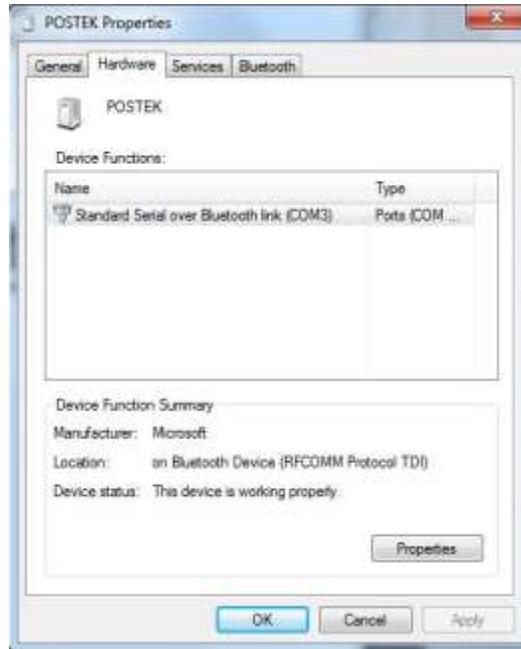

Figure 3-7
- Then set the V8i driver port to the assigned Bluetooth port. To determine it, right click on the POSTEK Bluetooth icon and open the properties' window, then select the "Hardware" tab. The port name will be displayed, such as COM1, COM2 or COM3, as shown in Figure 3-7. Take a note of the displayed port name.